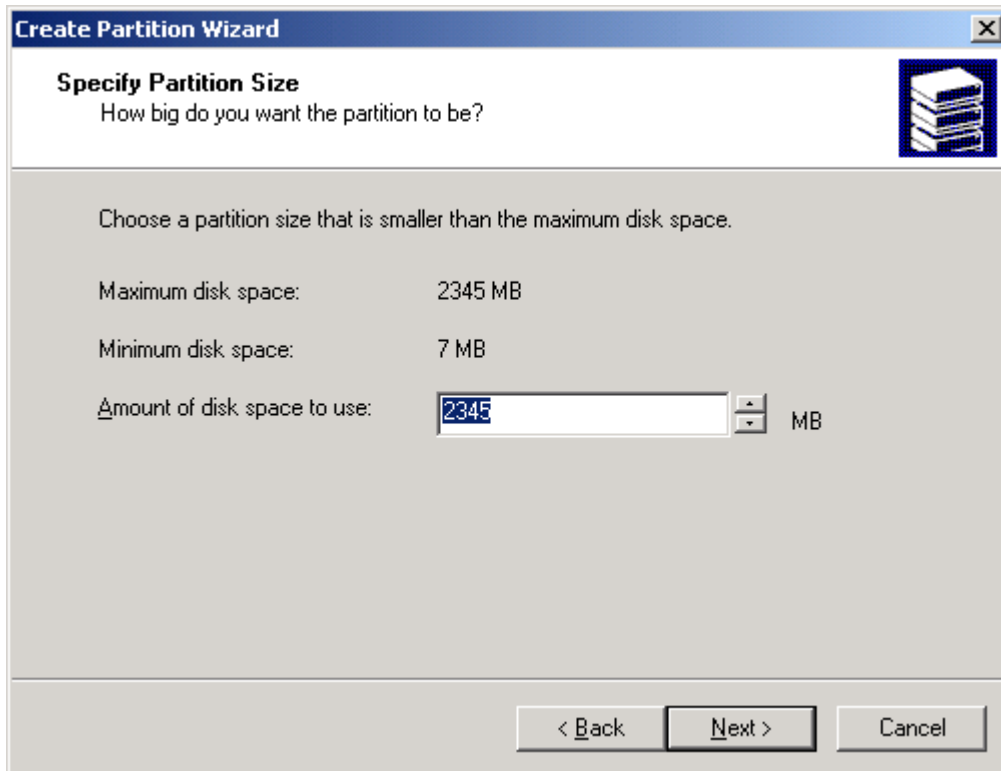

Figure 3.5 Specify Partition Size
2. The Specify Partition Size window appears (see Figure 3.5). Specify the desired partition size. If the size is greater than 1024 MB, the Disk Management will request confirmation to create the partition. Click **Next**.